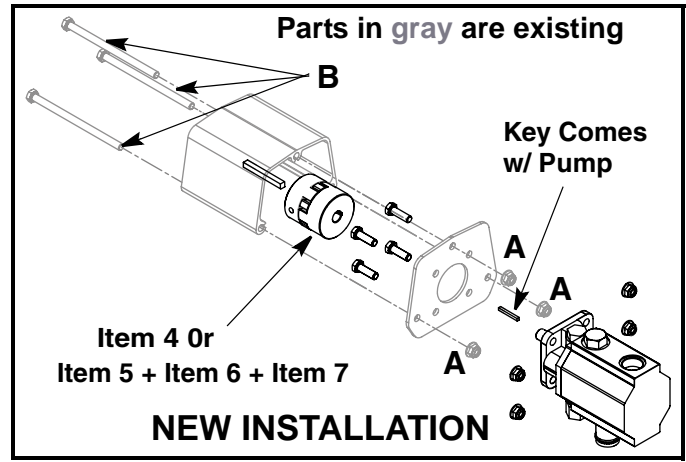

FIGURE 3
11. Remove the three nuts and lock washers (A) that secure the pump w/coupling and pump support bracket subassembly to the coupling shield.
**New Pump Subassembly Build: (Refer to Figure 3)**
24. With the three mounting bolts (B) set into the engine mounting frame, slide the coupling shield onto the three mounting bolts (B) and then the pump subassembly onto the three mounting bolts (B). Refer to Figure 3.
25. Secure the coupling shield and pump subassembly with the three lock washers and nuts (A) removed in Step 11. Tighten hardware securely.